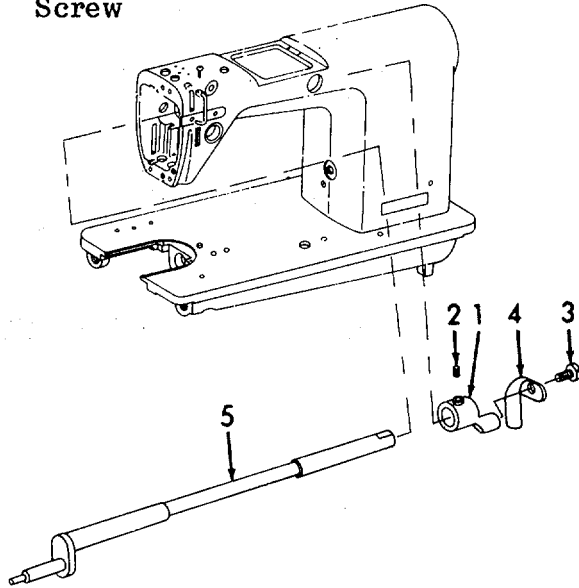

Figure 6-68. Lifting Lever Shaft, Removal.
a. *Removal (Refer to Figure 6-68).*